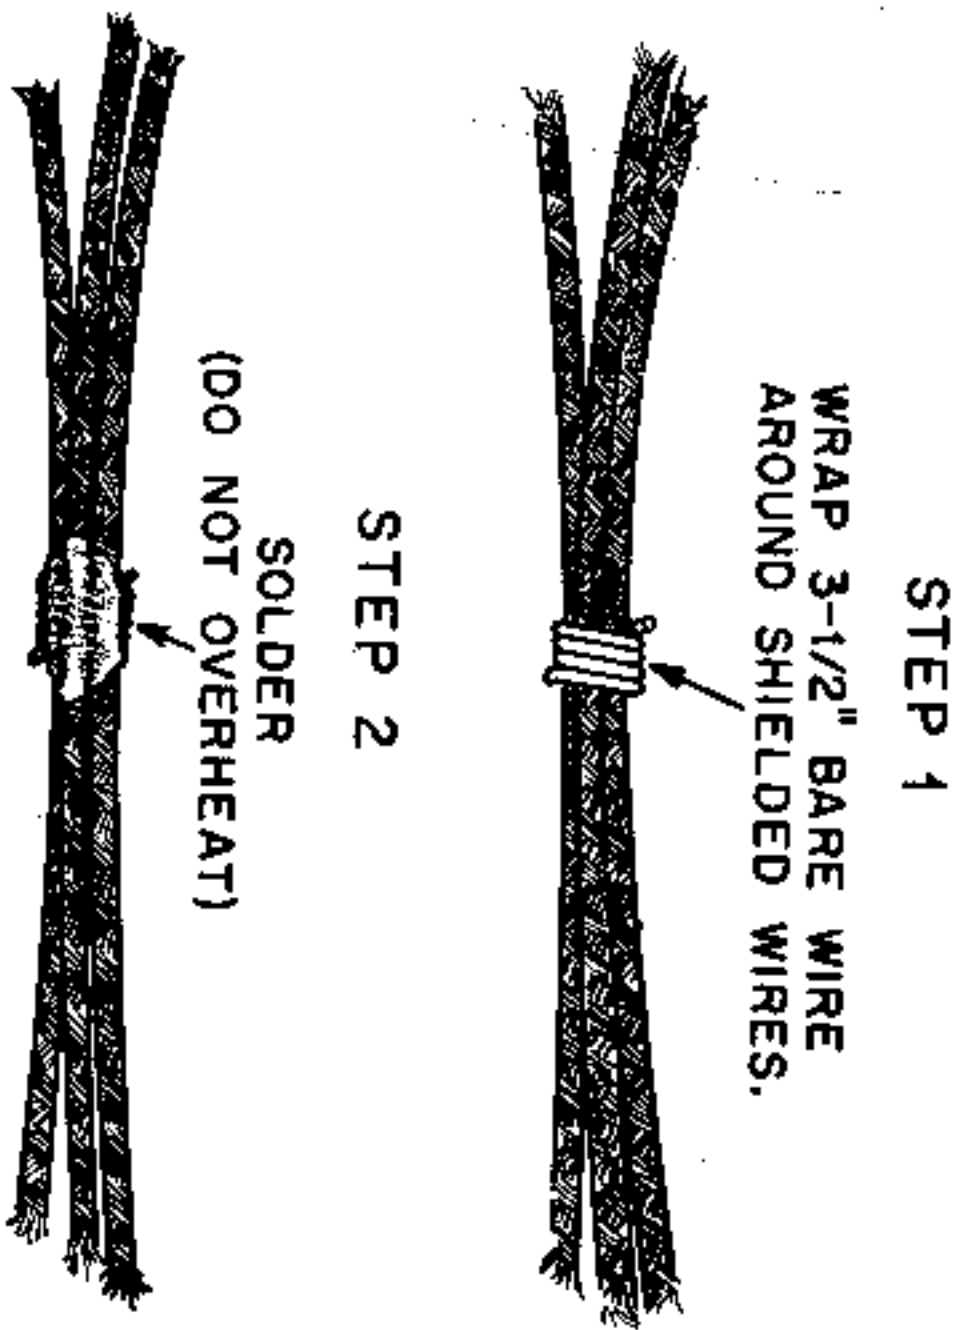

FIGURE 8. GROUNDING SHIELDED WIRES
- ✓ As shown in Figure 8, wrap 3 1/2" of the bare wire around the three shielded wires. Solder them together at this point. Push these wires neatly down against the chassis.